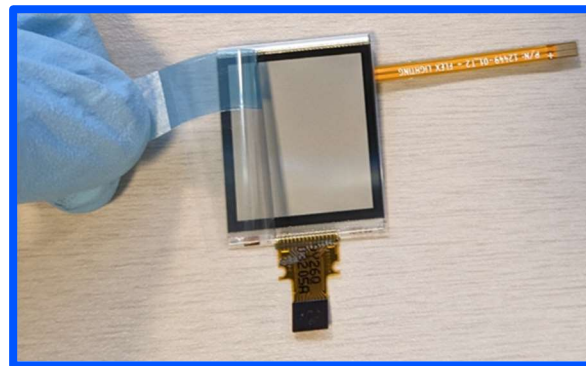

Figure 12. Removal of protective liner using speedy tab.
5. Remove the protective film slowly, using the speedy tab, pulling at a $\sim 30^\circ$ angle from display surface. Remove under an ESD control device, like an ion blower, in a $>50\%$ RH environment to reduce the risk of static charge. Refer to Figure 12.